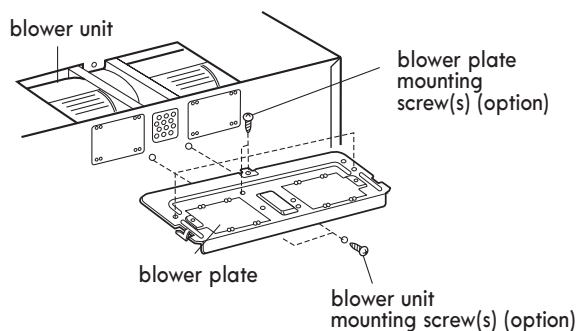

Figure 21
6. Reattach blower plate to microwave oven. Attach with the blower unit mounting screw(s) and then the blower plate mounting screw(s). See Figure 21.